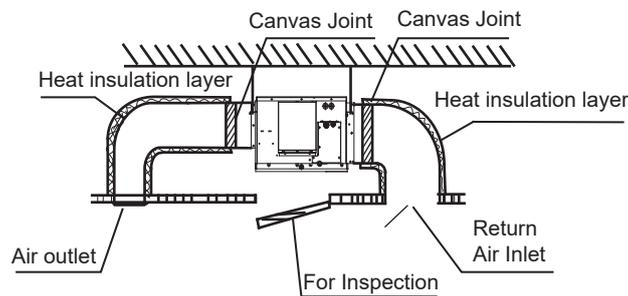

Figure 23.
6. Connect the air duct as shown in Figure 23.